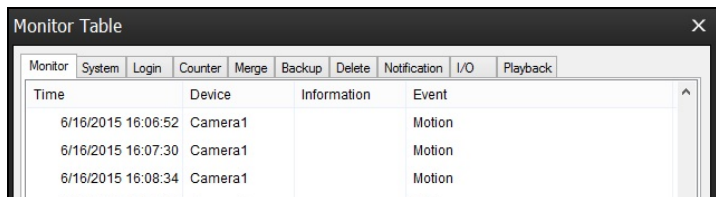

Figure 4-13
- A. On the live view, draw a detection area. To draw an irregular shape, drag one or more of the red dots that outline the detection region until the line is in the shape that you want. See Figure 4-13.
- E. On the live view, outline a detection area. To draw an irregular shape, drag one or more of the red dots that outline the box until the line is in the shape that you want. See Figure 4-13.